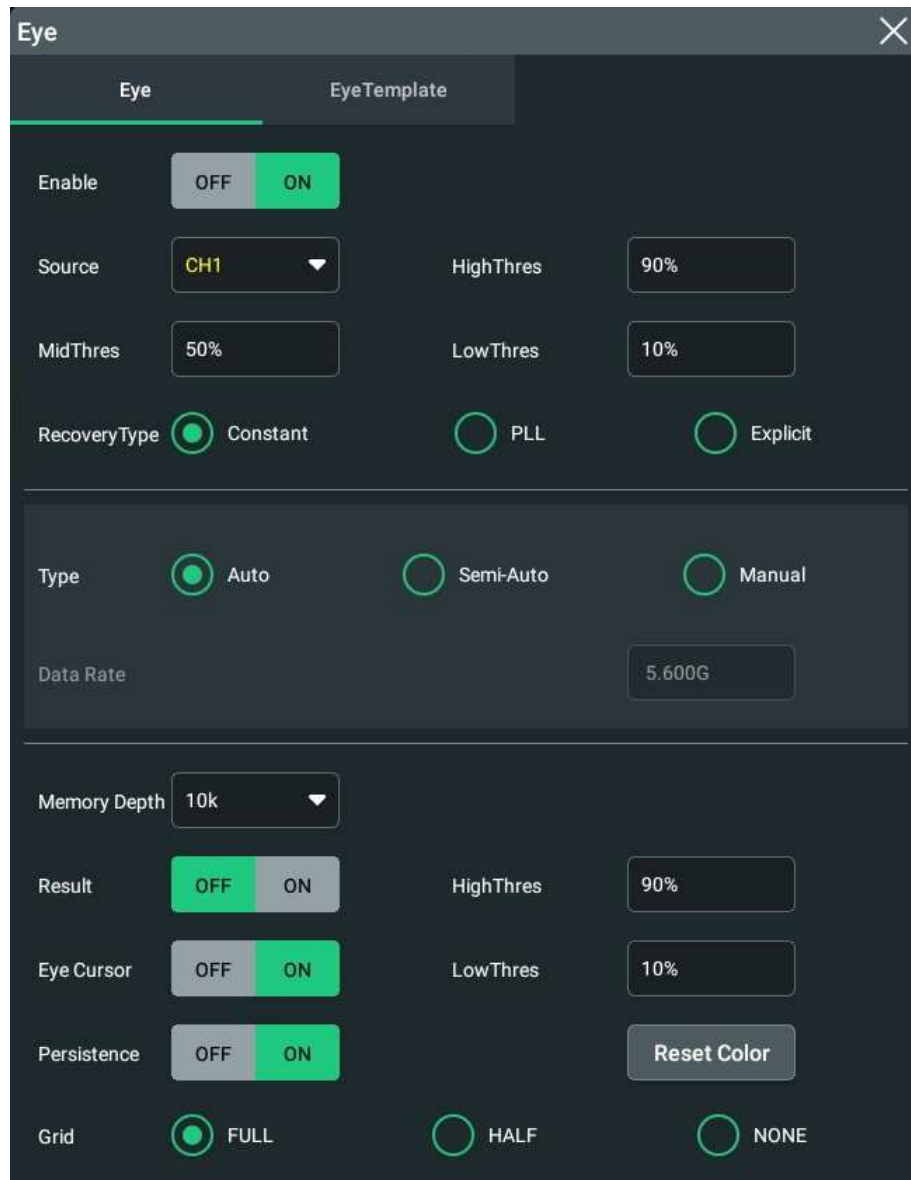

Figure 13.1 Eye Diagram Setting Menu
- Click or tap **Setting**, then the eye diagram menu is displayed, as shown in *Figure 13.1*.